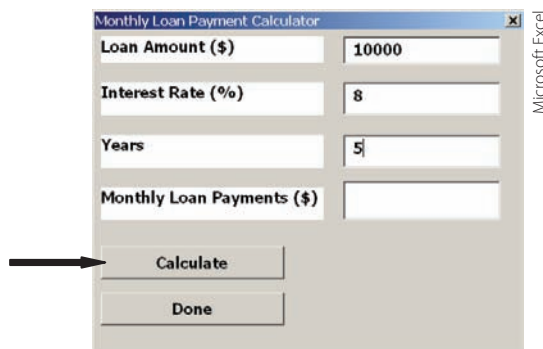

FIGURE 14.68
18. Run the code. Input the following data, and then click on the Calculate button shown in Figure 14.68.